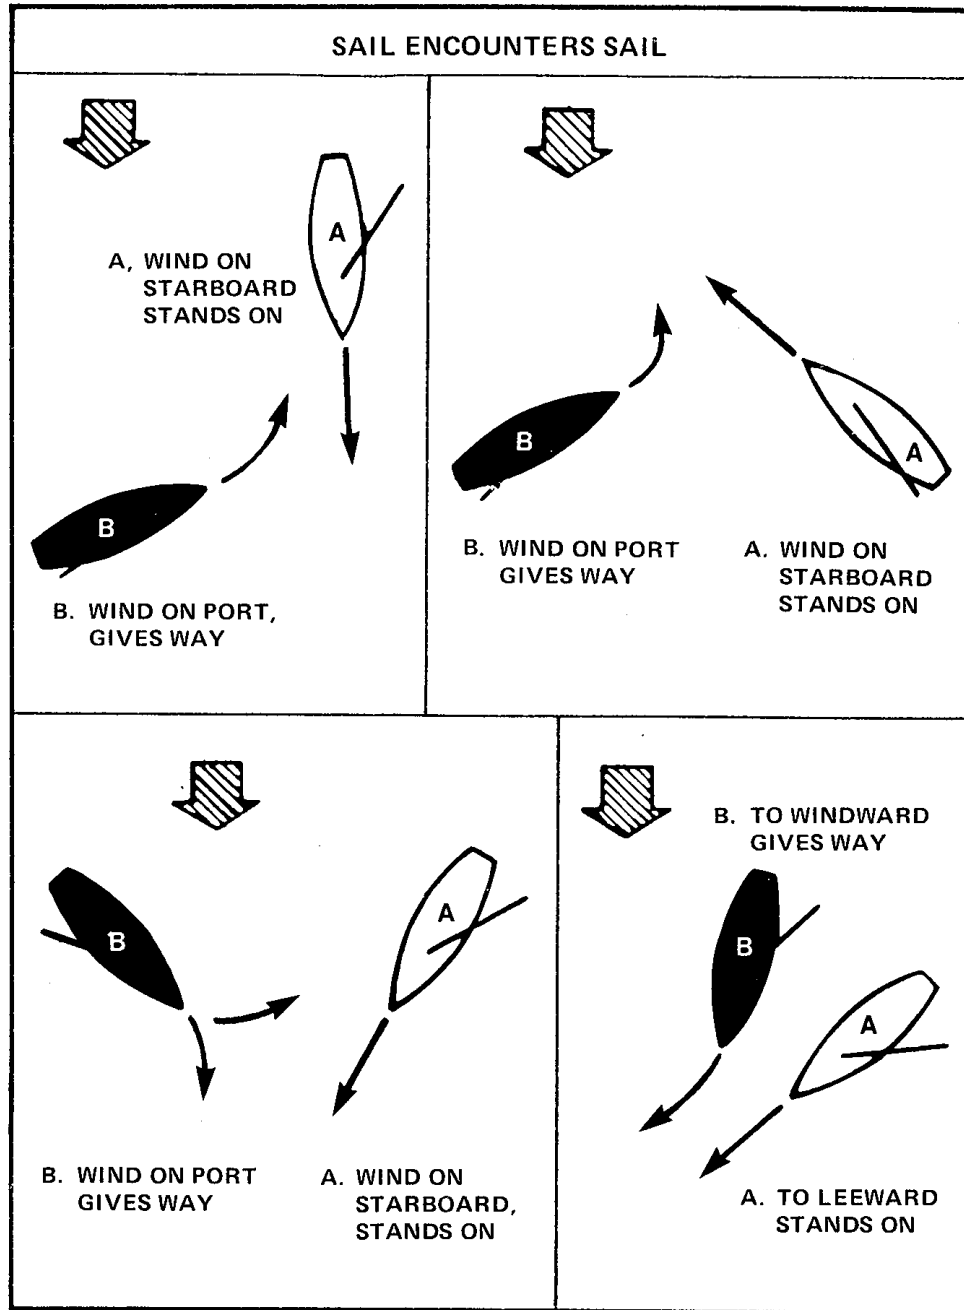

Figure 7-39 Sail Encounters Sail
- c. **Sail Encountering Sail** — (See Figure 7-39.) The right of way between two sailing vessels was formerly a rather complex matter (and still is on the Great Lakes), but the International Regulations have been simplified:
- (1) When each has the wind **on a different side**, the vessel which has the wind **on the port side** shall **keep out of the way** of the other.
- (2) When both have the wind on the **same side**, the vessel **which is to windward** shall **keep out of the way** of the vessel **which is to leeward**. (The windward side is the side opposite to that on which the mainsail is carried.)